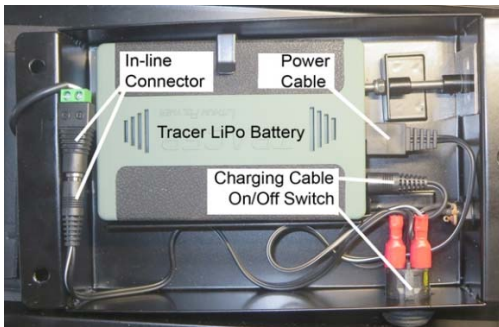

Fig.1
2. Undo and remove the 3 Nyloc Nuts securing the Battery Box to the underside of the unit and carefully lift the battery box away (note: an internal cable will limit movement of the box, but you do not need to disconnect the in-line socket and plug connection) – see fig.1 below.
6. Check that the in-line socket and plug connection is still fully connected (i.e. has not been disturbed while removing the battery box) – see fig.1, then reposition the box over the studs on the underside of the unit.
7. Check that the cable with the in-line connector is positioned in the space behind the battery in the battery box (see fig 1 below), then drop the box onto the studs and resecure in position with new M5 Nyloc Nuts. (note: Nyloc Nuts are designed to protect against nuts vibrating loose in use. For maximum performance, they should be replaced after each release).